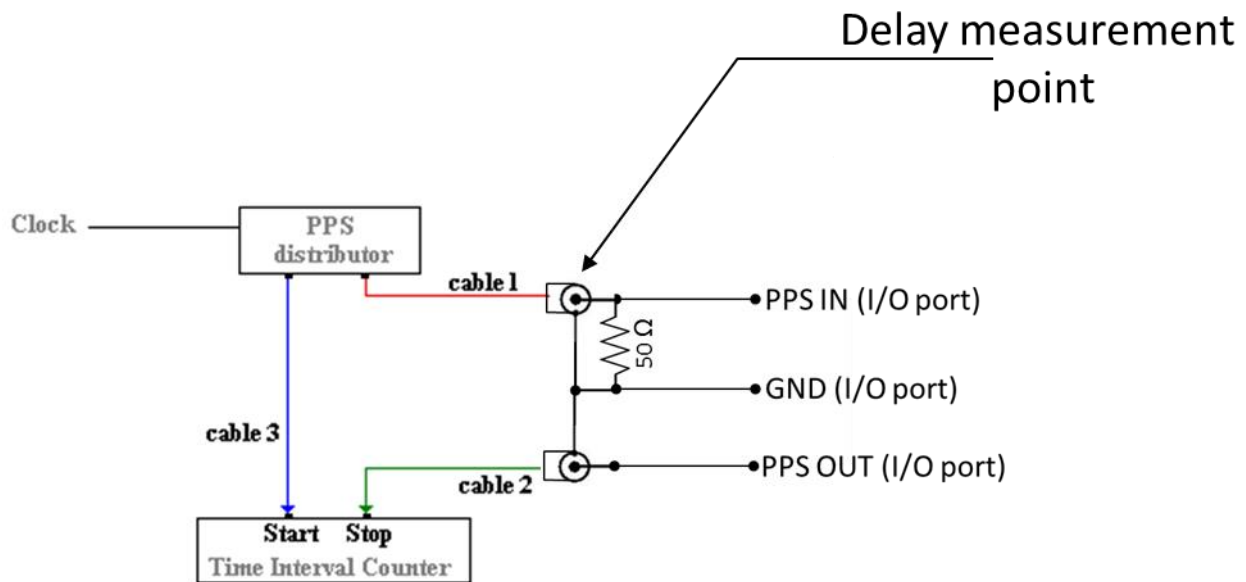

Figure 2. Setup to measure the delay between PPS OUT and PPS IN, tare included.
The connection of coaxial cables to the pins of the I/O port of the receiver must be done with care, interfacing properly with the TTL-compatible signal expected by PPS IN and provided by PPS OUT (see details in Figure 2). NIST uses a custom-made interface that includes a time interval counter and records the PPS OUT minus PPS IN on a text file. The two cases, one for a standalone receiver and the other one for the NIST case, will be described below.
- This measurement provides the PPS OUT minus the PPS IN, with tare included. The setup is shown in Figure 2: **note the details of the connection between the I/O port pins and the coaxial cables used for the measurement. The length of the connection between the I/O port pins and the two coaxial cables (cable 1 and cable 2) is not included in the measurement so it should be as short as possible.**